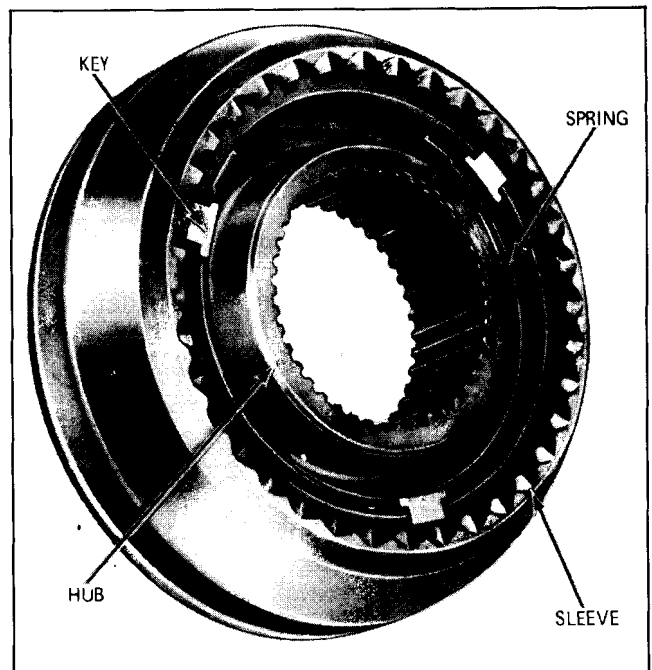

Fig. 7B-12 Synchronizer Assembly
- c. Using Tool J-6403-1, drive new bushing in from rear until end of bushing is slightly below counterbore for oil seal (Fig. 7B-7). Coat bushing with transmission lubricant.
- e. Using Collar J 6403-2 and Tool J 6403-1, tap seal into counterbore until its flange bottoms against extension housing (Fig. 7B-4).
3. Replacement of synchronizer keys and springs (Fig. 7B-12):